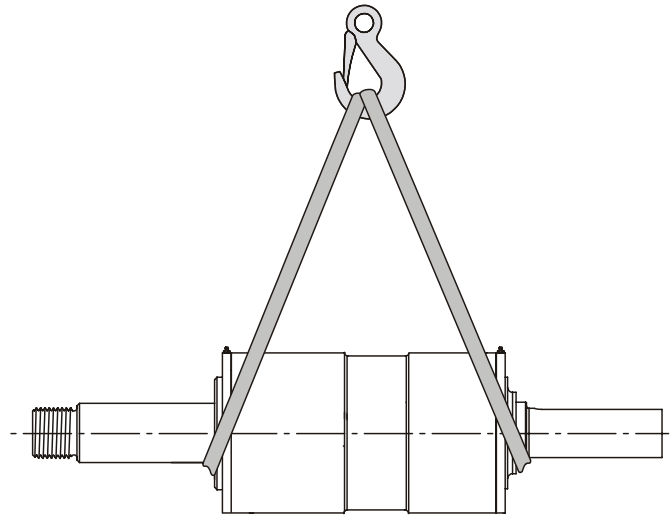

Figure 9.5.4-1 Lifting the bearing cylinder
- h) Lift bearing cylinder assembly, as shown in Figure 9.5.4-1, out of the bearing frame.